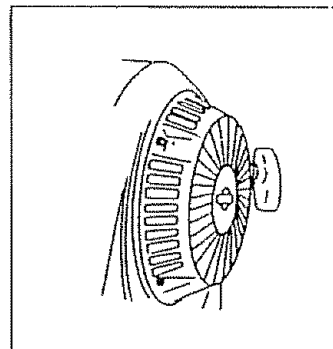

FIG. 8
- Crank engine. Grasp the starter grip and pull slowly until you feel some resistance. Let rope return slowly, then pull cord out with rapid full arm stroke. Let rope return slowly. Do not let rope "snap back" against starter. Repeat until engine starts (Fig. 8).